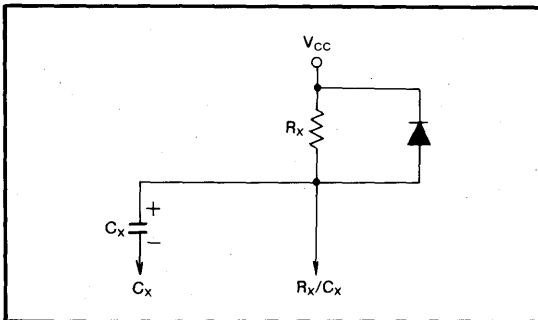
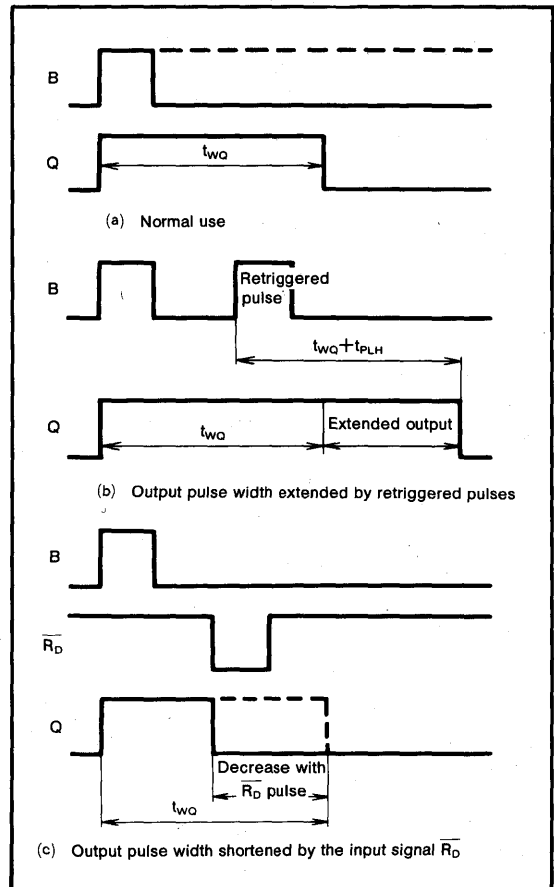

Fig.1 Connection of external resistor  $R_x$  and capacitor  $C_x$  to timing terminals  $C_x$  and  $R_x/C_x$
Fig.2 Output pulse width control
in Fig. 1, and trigger pulses are applied at input A or  $\bar{B}$ , positive pulses will appear at Q and negative pulses, at  $\bar{Q}$ . (Fig.2-(a)) The pulse width  $t_{wQ}$  is set by  $R_x$  and  $C_x$ . The trigger is applied when A changes from low-level to high-level or when  $\bar{B}$  changes from high-level to low-level. The retrigger function is used to obtain longer pulse width and output pulses can be extended by retriggering at A or  $\bar{B}$  before the output pulse is completed. (Fig.2-(b)). When direct reset input  $\bar{R}_D$  is low, Q will be reset low and  $\bar{Q}$  will be reset high, irrespective of the output state, allowing output pulses to be narrower by  $R_D$ . (Fig.2-(c)).
Resistor  $R_x$  and capacitor  $C_x$  are connected to timing terminals  $R_x/C_x$  and  $C_x$ , as shown in Fig. 1. If  $C_x$  is polar, the positive lead should be connected to the  $R_x/C_x$  side, and the negative lead to the  $C_x$  side. A diode is connected to prevent latchup.
Fig.2-(a) is the directions as ordinary monostable multi-vibrator operation and the output pulse width  $t_{wQ}$  can be set by using the formula and figure shown in section 2 above.
As shown in Fig.2-(b), the output pulse width can be extended at will by applying additional trigger pulses before the output pulse is completed.
As shown in Fig.2-(c), the output pulse which has been generated by the trigger signal can be terminated with the  $\overline{R_D}$  signal and it is possible to shorten its width as required.
- 4-5 Capacitor discharge when the power is turned off may cause thermal breakdown or latchup, so a diode should be connected as shown in Fig. 1.